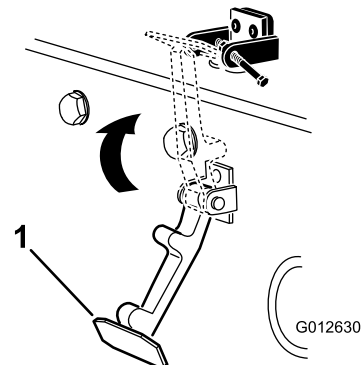

Figure 9
6. Rivet the brackets and the washers to the hood (Figure 9).
7. Hook the latch onto the hood-latch bracket (Figure 9).